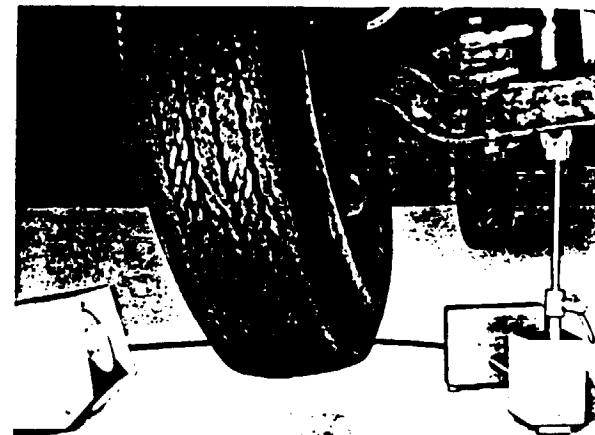

Fig. 19
- (A) Follow the procedures used to balance car wheels except for the following considerations:
- (1) Before balancing any truck wheels, take a lateral run-out reading. If more than 1/8-inch run-out exists, remove as much as possible by loosening the bolts at the low spot and tightening the bolts at the high spot.
- (2) Remove all rocks from the tires before spinning.
- (3) Be sure King Pins are tight.
- (4) If possible, balance the wheel statically first.
- (5) Use the longer, 27-12-1, truck probe in the pickup, if necessary. See Fig. 19.
- (6) As truck weights are all made in 2-ounce increments, 1-ounce is as close as some wheels can be balanced without cutting weights.
- (7) On truck wheels, normally triple the size weight called for on the wheel balance-indicator meter. It may be necessary to place part of the weight on the inside of the wheel.